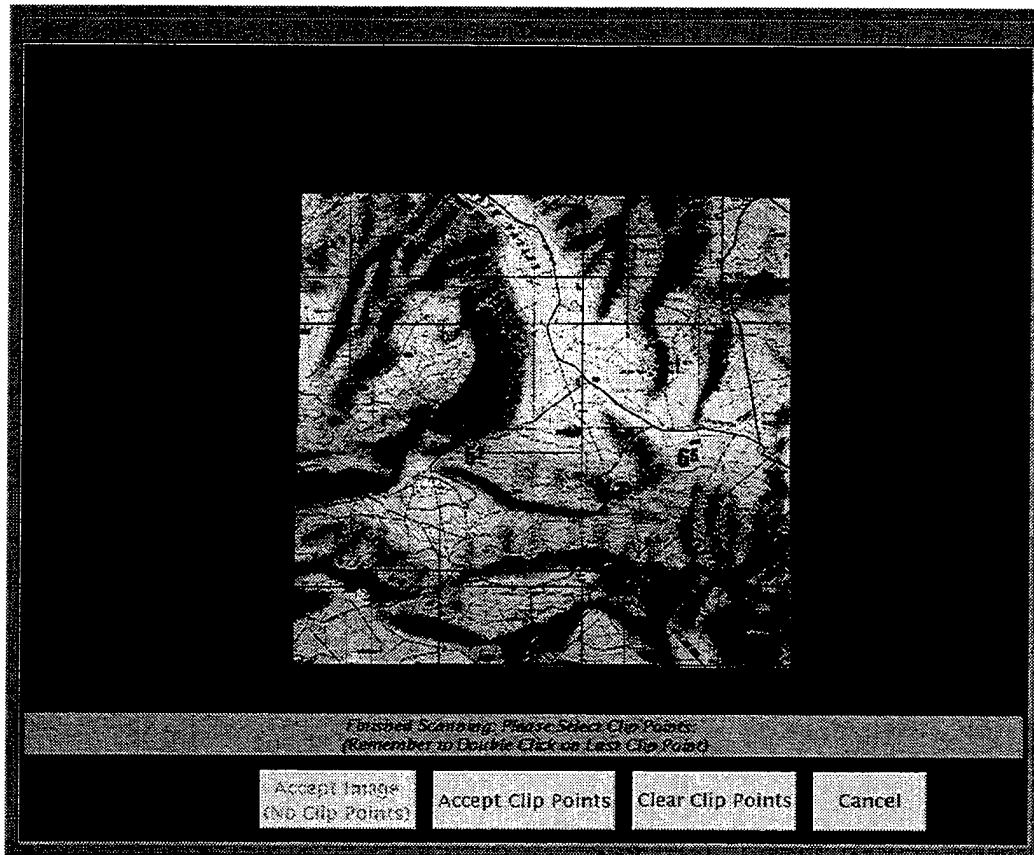

Fig. 56 — Scan overview window showing clipped image
- (c) **Select Clip Points to Trim the Image:** position the cursor over the scanned image in the **Scan Overview Window** and define a clipping polygon by clicking with the left (first) mouse button. MMC will draw a red line to show the clip region as the user selects each point. On the last clip point, double-click the mouse button to complete the clipping polygon; MMC will redraw the clipped image (Fig. 56). To start over, select the **Clear Clip Points** button at the bottom of the window. When the clip points are acceptable, select the **Accept Clip Points** button. To NOT clip the image, select **Cancel** at any time.